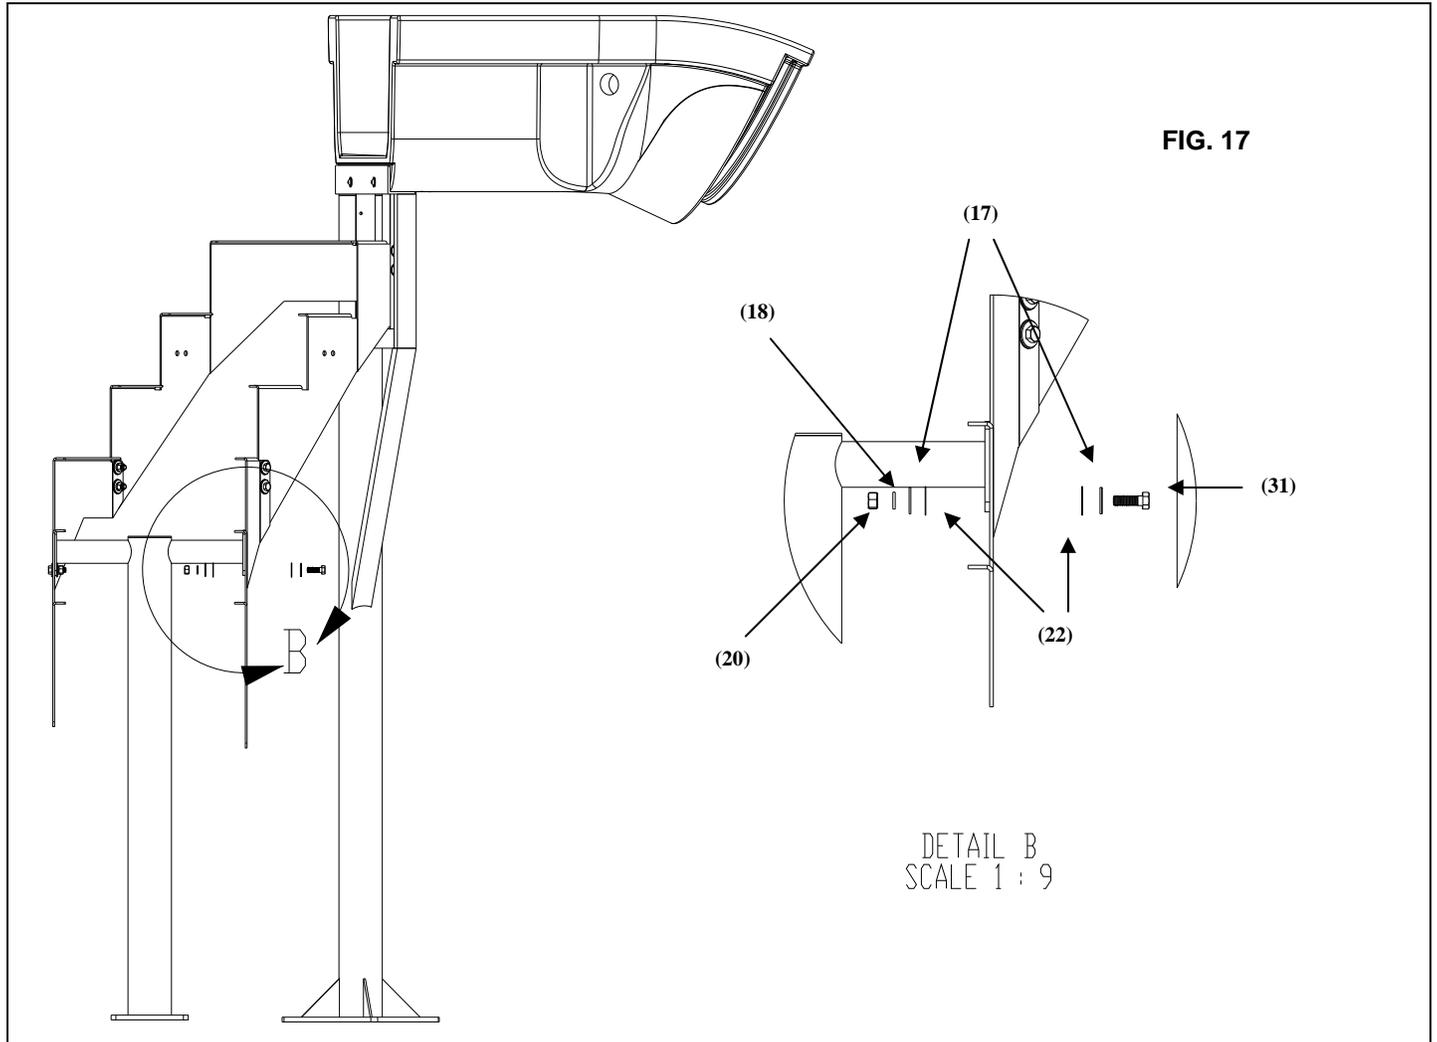

FIG. 17
3) Move the Middle Stair Support (48) into place as shown in Figure 17. Align the holes in the Middle Support bracket with the holes in the stair brackets. Next, attach the Middle Support to the stair brackets as shown in Figure 17, Detail A. The required hardware is as follows: 1/2" x 1.5" Hex Head Bolt (31), 1/2" Flat Washer (17), 1/2" Nylon Washer (22), 1/2" Nylon Washer (22), 1/2" Flat Washer (18), 1/2" Lock Washer (20), 1/2" Hex Nut (22). This should be done for both sides of the support.